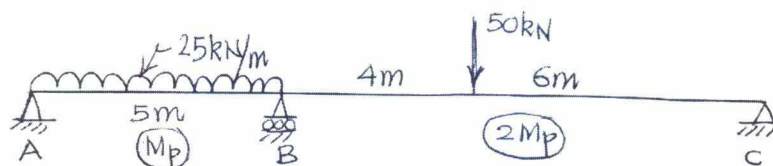

Fig.Q4(c)
- c. Determine the plastic moment capacity of the beam shown in Fig.Q4(c). (10 Marks)